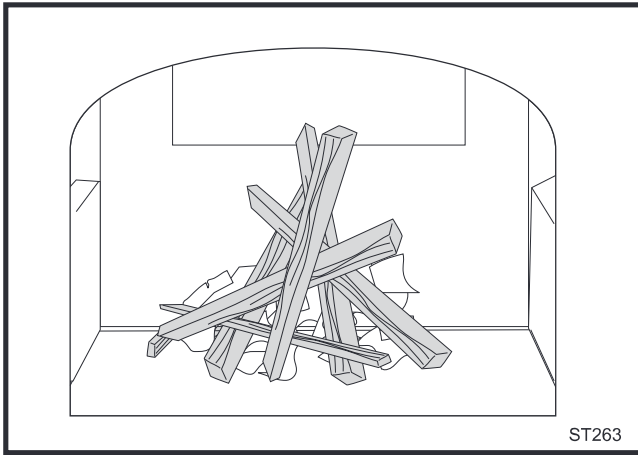

Fig. 36 Start the fire with newspaper and dry kindling.
2. Place several sheets of crumpled newspaper in the stove. Do NOT use glossy advertisements or colored paper, as they can poison the catalyst. Place on the paper six or eight pieces of dry kindling split to a finger-width size, and on the kindling lay two or three larger sticks of split dry wood approximately 1-2" (25-50 mm) in diameter. (Fig. 36)